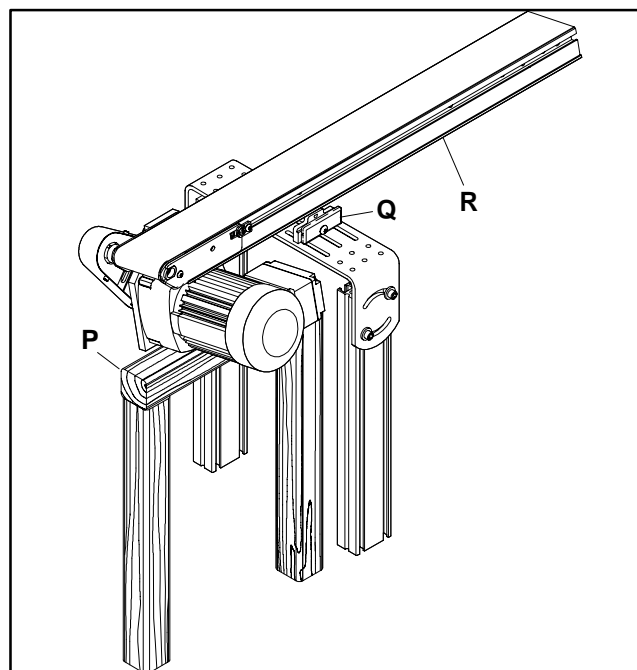

Figure 20
In addition, the weight of the gearmotor is all on one end of the conveyor. This could cause the conveyor to tip off the stands when the mounting clamps are removed. Be sure to provide some form of support (P of Figure 20) underneath the gearmotor while the belt is being changed.
2. To facilitate re-assembly, mark critical locations on conveyor frame and remove guiding, controls, stops and other attached accessories which would interfere with belt removal on side opposite (R of Figure 20) drive assembly.
8. Loosen mounting clamp plate screws (Q of Figure 20) on side of conveyor opposite drive assembly. Screws only need to be loosened far enough to allow conveyor to clear mounting clamp plates.
2. Install new belt by sliding it sideways onto conveyor frame assembly onto side opposite drive assembly (R of Figure 20). Push conveyor back down onto mounting clamp blocks being careful not to pinch conveyor belt. Fully tighten clamp plate screws to secure mounting clamp plate (Q of Figure 20) to clamp block.